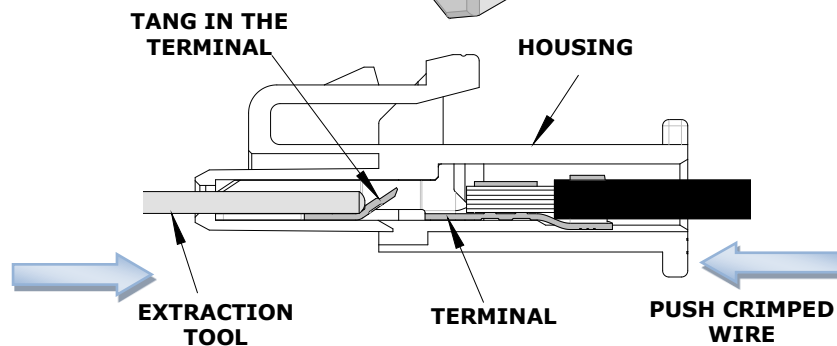

Figure 4
2. Push the terminal forward in the direction of the arrow before using the extraction tool as shown in Figure 4.